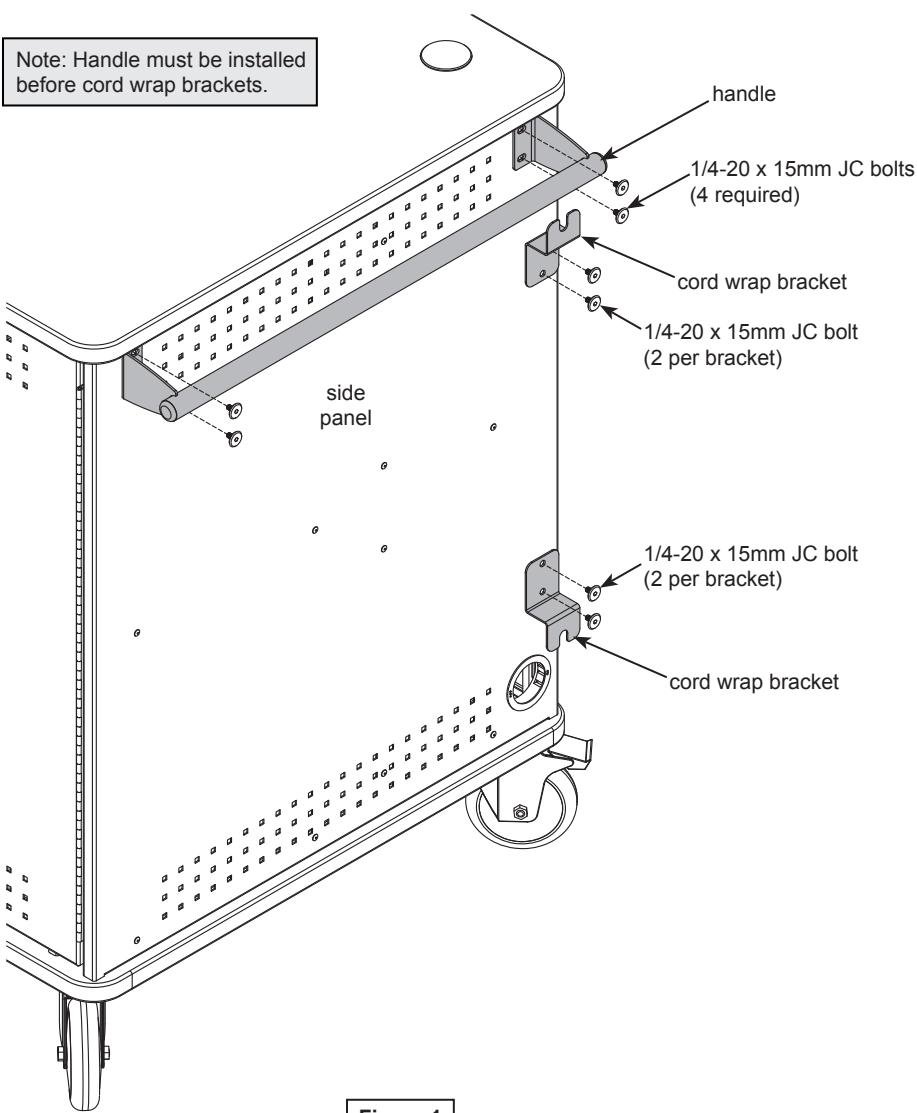

Figure 1
1. The vLT-32 has two handles. Attach each handle to the cart side panel with (4) 1/4-20 x 15mm JC bolts and tighten securely. **Figure 1**.